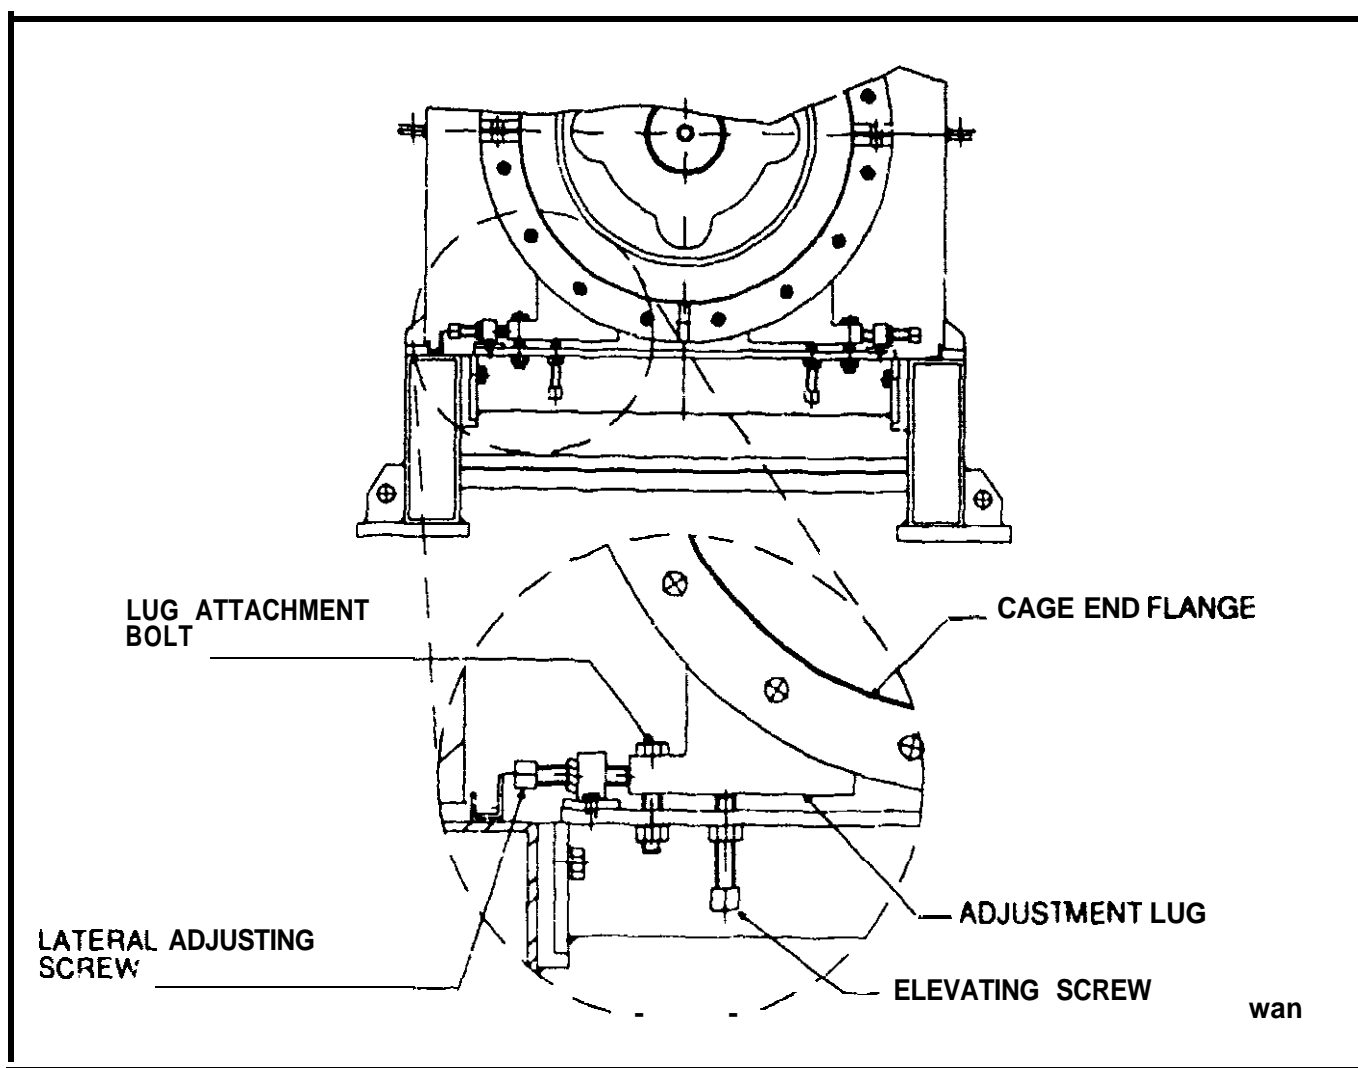

Figure 4-3
- a. Refer to Figure 4-3. Loosen the jam nuts on the elevating screws. Loosen the attaching bolts on both (left and right) adjustment lugs. Loosen the jam nuts and back off the lateral adjusting screws $\frac{1}{2}$ turn (both sides).